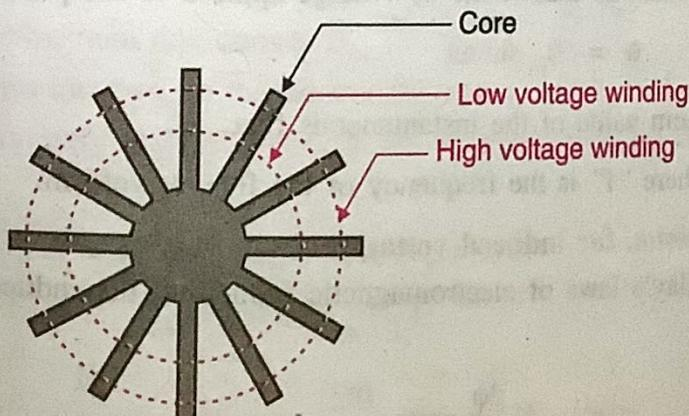

Fig. 6.3.3 : Plan view of berry type transformer
The berry type transformer is shown in Fig. 6.3.3.
- The high voltage and low voltage windings are placed as shown in Fig. 6.3.3 with the low voltage winding placed inside and high voltage winding placed outside.